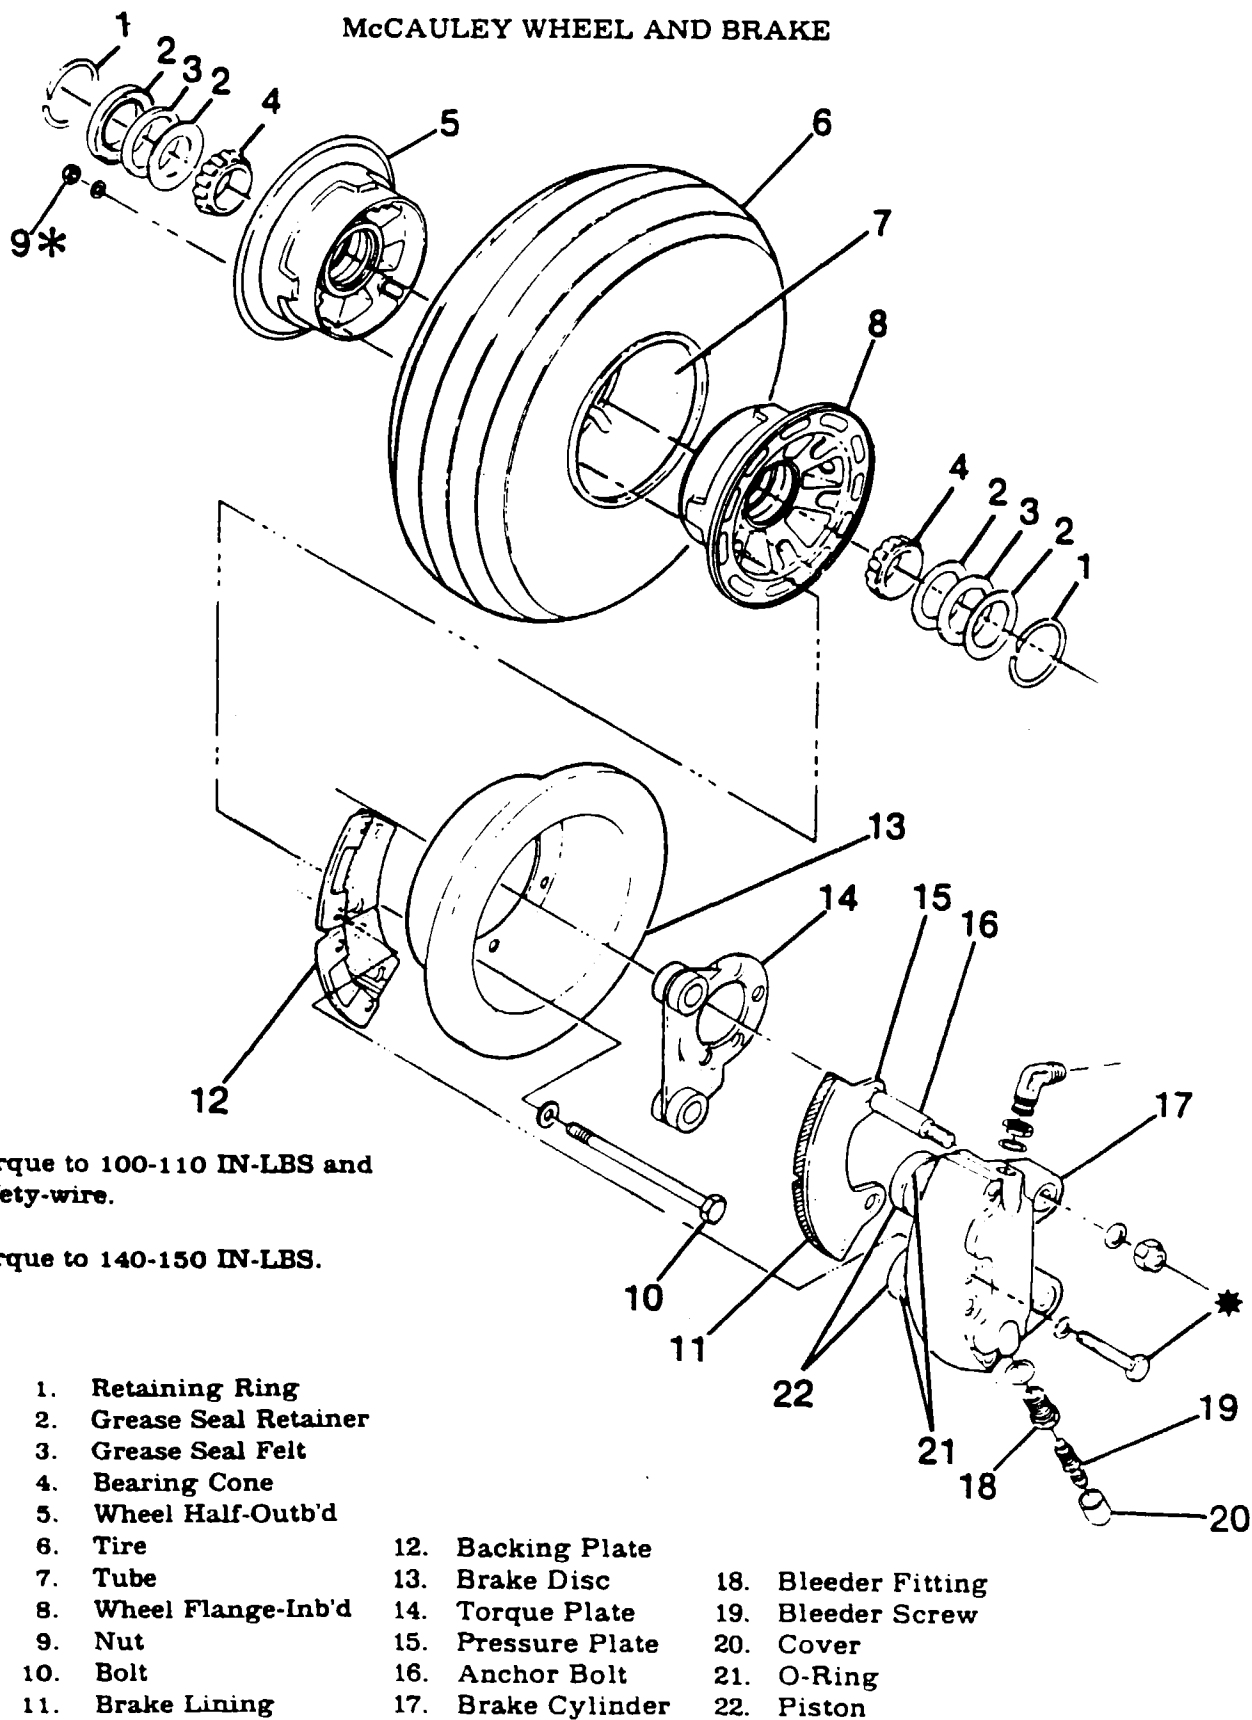

Figure 5-10. Main Wheel and Brake
- 5-56. **DISASSEMBLY.** (With hub and capscrews.) (See figure 5-10.)